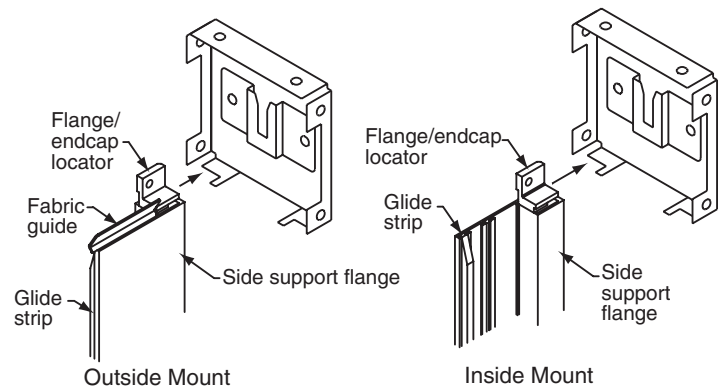

Figure 3
- ① With unit still on floor, install both side support flanges to both headboxes (see Fig. 3). Make sure flange/endcap locators are properly seated; tap gently with plastic hammer or rubber mallet if necessary. **NOTE: Fabric travels toward operator end.**